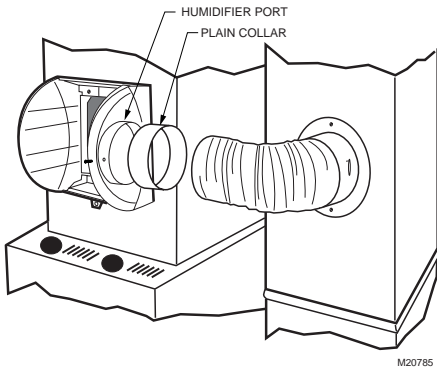

Fig. 7. Connecting bypass ducting.
14. Insert the plain collar into the humidifier port and secure with sheet metal screws. Connect the flexible ducting over the collar and secure with a connecting strap. See Fig. 7.